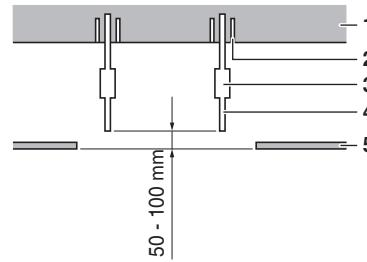

Fig. 6
(2) Make the ceiling opening needed for installation where applicable. (For existing ceilings.)
(3) Install the suspension bolts. (Use either a M8~M10 size bolt.) Use anchors for existing ceilings, and a sunken insert, sunken anchors or other field supplied parts for new ceilings to reinforce the ceiling in order to bear the weight of the unit. Adjust clearance from the ceiling before proceeding further. Installation example (See Fig. 6)